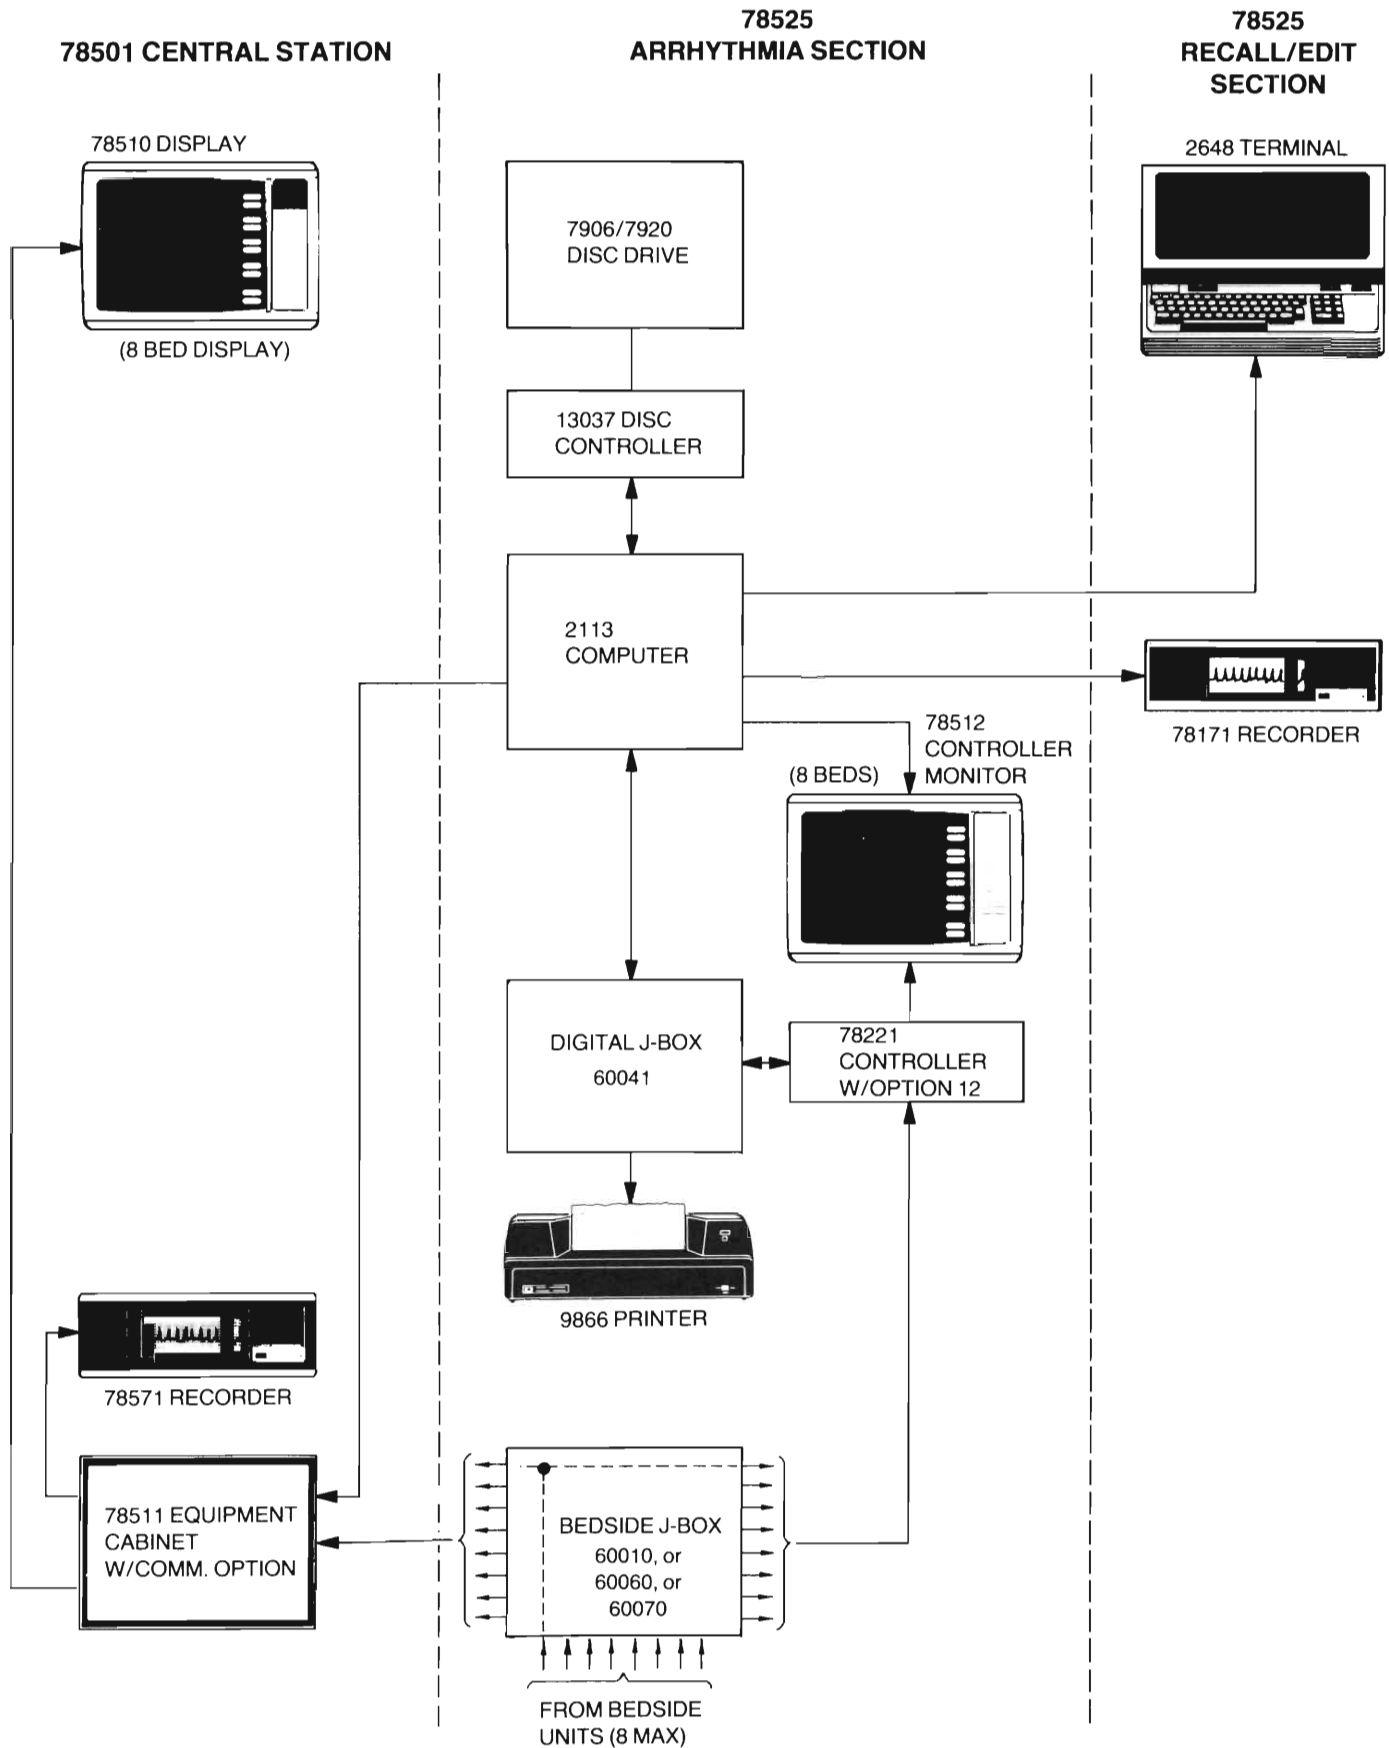

Figure 1-2. Arrhythmia/501 System Block Diagram
1-5. The 78525 Arrhythmia Monitoring System with Recall and Edit is normally interfaced to either a 78501 or 78502 Central Station (see Figure 1-2 and 1-3); it can also be linked to a 780 Series Central Station or PDMS (Patient Data Management System), depending on system requirements. The system accepts amplified ECG signals from an assortment of bedside monitoring devices, analyzes the waveforms, and displays the results of these analyses. Up to eight bedsides may be connected to a standard system, or optionally up to 16 bedsides (maximum) by adding additional units to the system. Pace pulses as well as natural ECG signals are detected, and the complete QRS complex is examined and compared to an automatically determined "learned" rhythm from each patient. Noise elements are filtered out of the received signals, allowing detection of several types of arrhythmias. Analyzed information for each patient is continually updated and stored, allowing medical personnel to select from a variety of information displays which indicate patient status, both current and for the past 24 hours.
1-11. The 78525 System contains two junction boxes for interconnecting cables: (1) a bedside interface junction box (60010 or 60060 or 60070 and (2) a digital interface junction box (60041). The bedside interface junction box accepts interface cabling from the associated bedside modules, and interconnects the received signals to the 78221A Controller and 78511A Equipment Cabinet as shown in Figure 1-2. It can accommodate cabling from up to eight bedsides. Cabling from additional bedsides when Option X51 is installed require additional bedside junction boxes, one per eight bedsides.